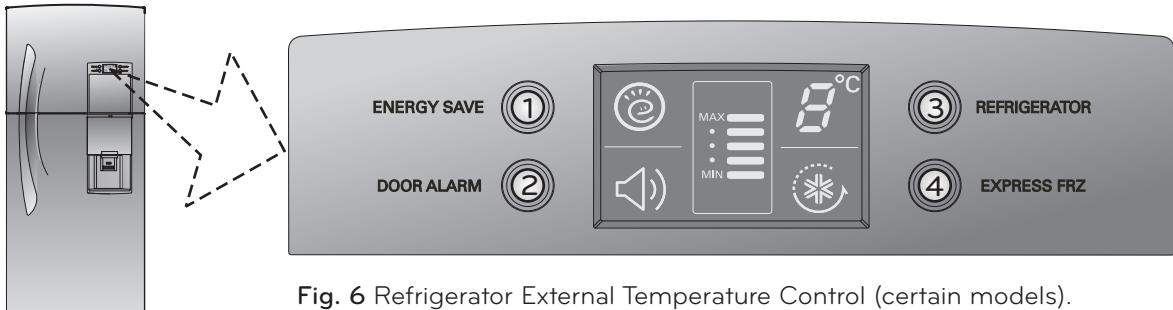

Fig. 6 Refrigerator External Temperature Control (certain models).
1. **Refrigerator:** Monitors the refrigerator temperature. External temperature control, Fig. 6, (certain models)